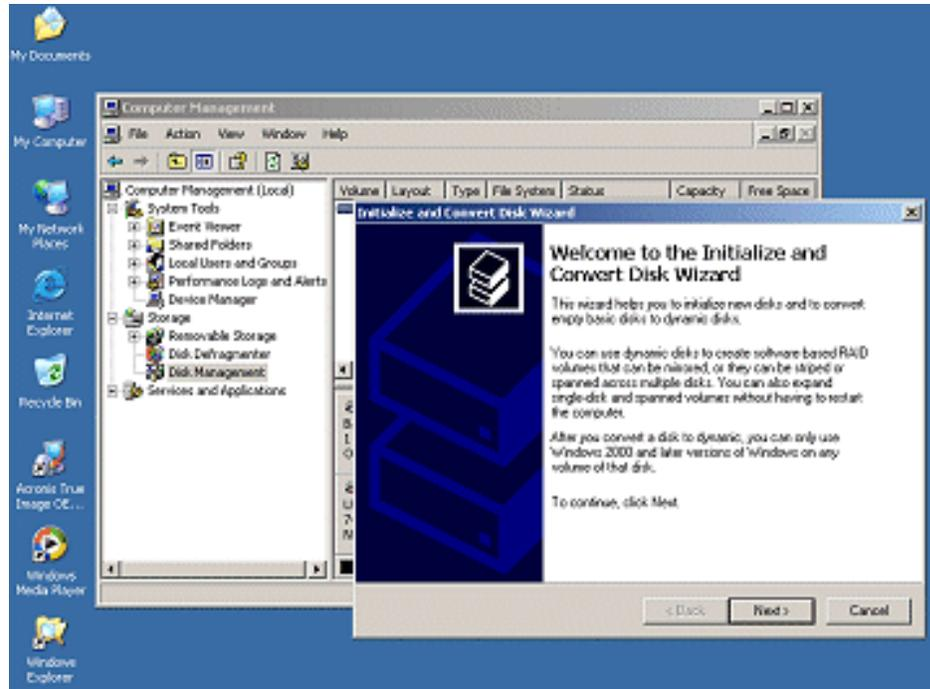

Figure 2-17. The Initialize and Convert Disk Wizard
- 17) Once the system has booted up into Windows®, right-click on the **My Computer** icon and then select the **Manage** option. In the ensuing **Computer Management** dialog, click on the **Disk Management** item. As you have just created a new RAID array, this will automatically launch the **Initialize and Convert Disk Wizard** as shown in Figure 2-17.